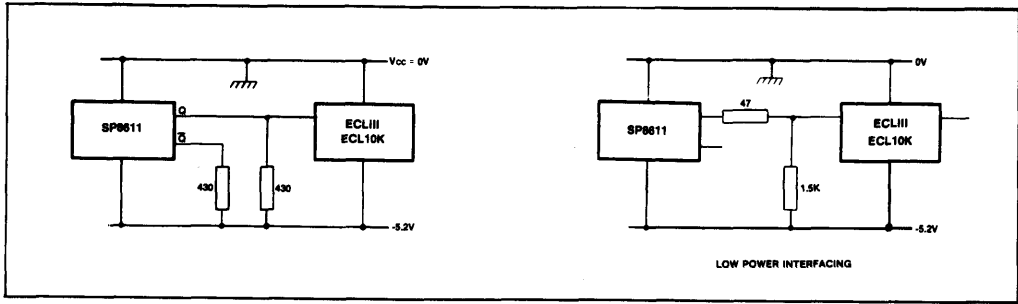

Fig.7 Interfacing SP8611 series to ECL 10K and ECL III
5. The emitter follower outputs require external load resistors. These should not be less than 330 ohms, and a value of 430 ohms is recommended. Interfacing to ECL III/10K is shown in Fig. 7.